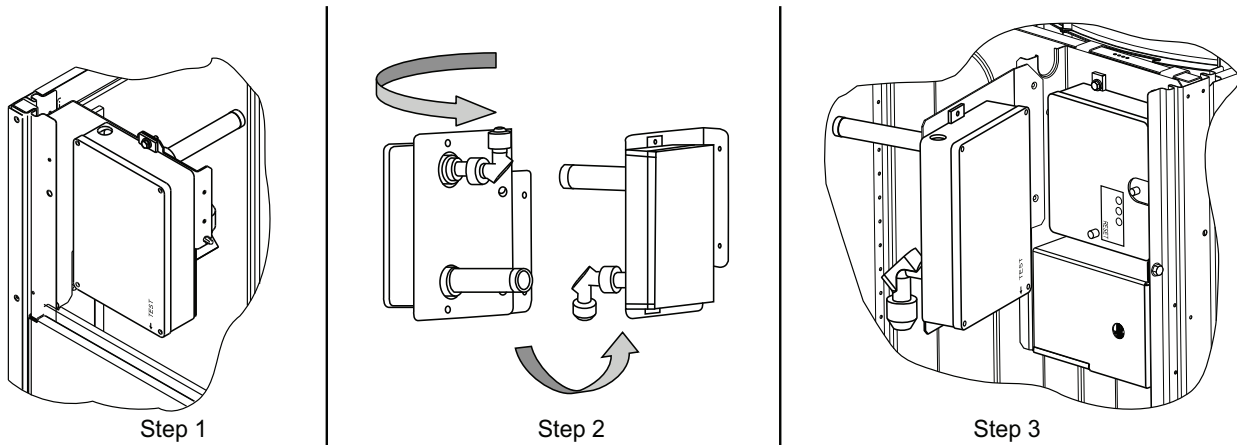

Fig. 67 — Completing Installation of Return Air Smoke Sensor
1. Unscrew the two screws holding the Return Air Smoke Detector assembly. See Fig. 67, Step 1. Save the screws.
2. Turn the assembly 90 degrees and then rotate end to end. Make sure that the elbow fitting is pointing down. See Fig. 67, Step 2.
3. Screw the sensor and detector plate into its operating position using screws from Step 1. See Fig. 67, Step 3.